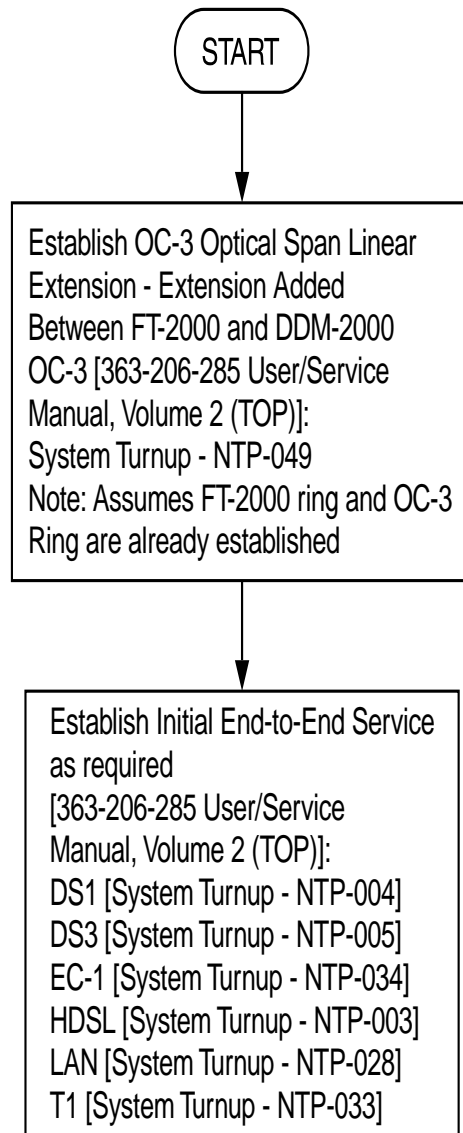

Figure 8 – DDM-2000/FT-2000 Large Network Configurations — OC-3 Optical Span Linear Extension Between FT-2000 and DDM-2000 OC-3 Ring
- Figure 8 DDM-2000/FT-2000 Large Network Configurations — OC-3 Optical Span Linear Extension Between FT-2000 and DDM-2000 OC-3 Ring